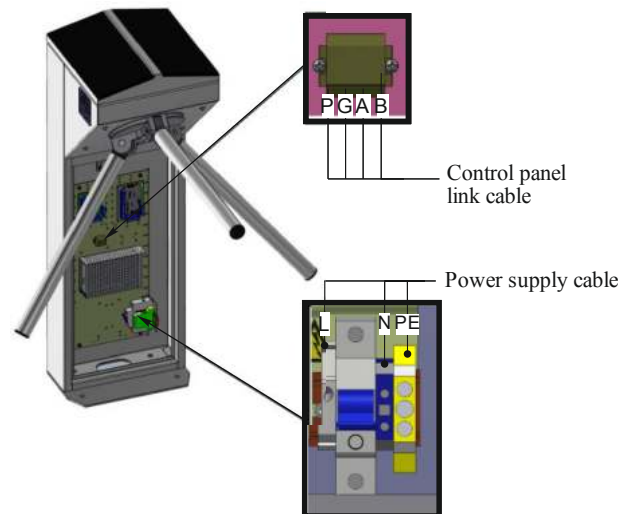

Fig. 19– Connection of power supply and control panel link cable
13) Turnstile connection (Fig. 19):
- Neutral (N) to be connected to terminal ~230V;
- Earth (PE) to be connected to earthing terminal (PE);